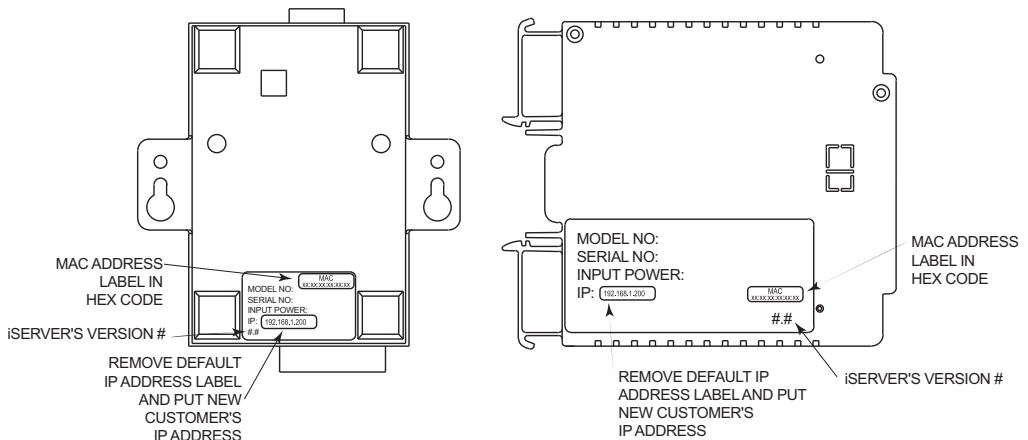

Figure 3.1 Labeling
Note Remove the small label with the default IP address and there will be room to put your IP address. See **Figure 3.1**
Go to your computer that is connected to the same network and from the MS-DOS Prompt window type "**ping 192.168.1.200**" and press Enter. If DHCP and DNS servers are used type "**ping eisxxx**", where xxxx are the last four digits of the iServer's MAC address, located on the device (see **Figure 3.1**). You should get a reply as shown in **Figure 4.1**.
- In the URL field, type **http://eisxxxx** using the last four-digits from the MAC address label located on the device (see **Figure 3.1**) if DHCP and DNS are used.